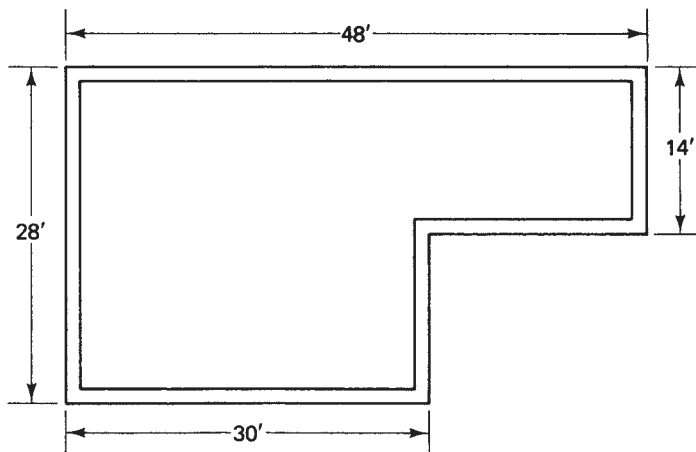

Figure 14–2
- A. Figure 14–2 shows a plan view outline of a foundation. Determine an economical order for the 2×6 sill plates.